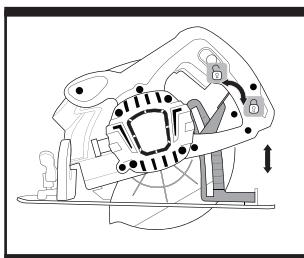

Fig. 2
3. DEPTH OF CUT ADJUSTMENT (Fig. 2)